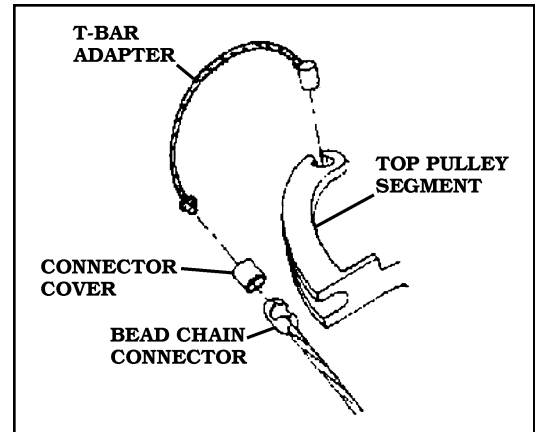

FIGURE 11
3. ATTACH A **BEAD CHAIN CONNECTOR** ONTO THE **CRUISE CABLE**. **FIGURE 11**